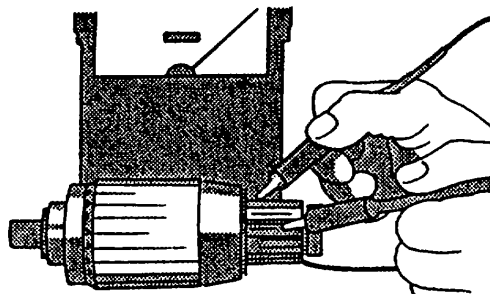

FIGURE 3-35. Checking for Open Circuit Windings
- c. Set multimeter for ohms and touch probes to two segments, refer to FIGURE 3-35. There should be continuity at any point. If there is no continuity, winding is open circuited. Replace the armature if open circuited.